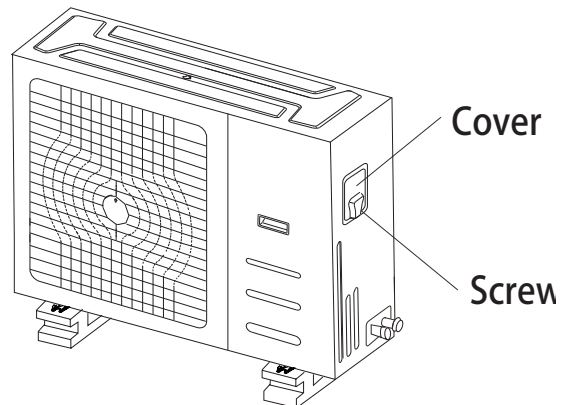

Fig.9-2
- Remove the electric cover of the outdoor unit. If there is no cover on the outdoor unit, disassemble the bolts from the maintenance board and remove the protection board. (See Fig.9-2)